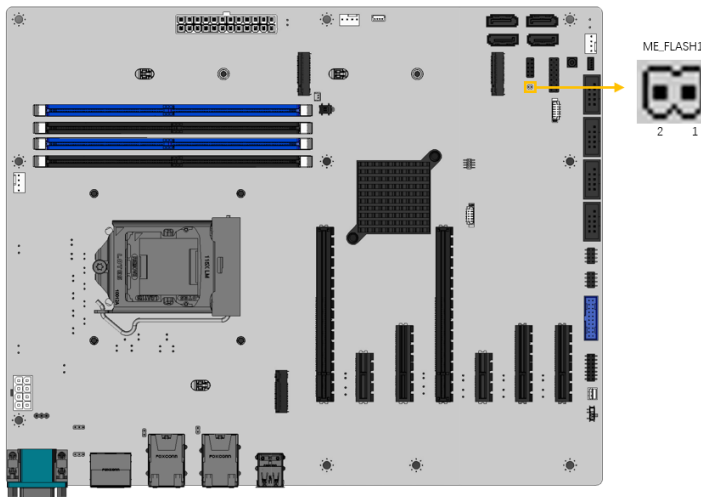

Figure 3-10: Flash Descriptor Security Override Jumper Location
- CN Location:** See Figure 3-10